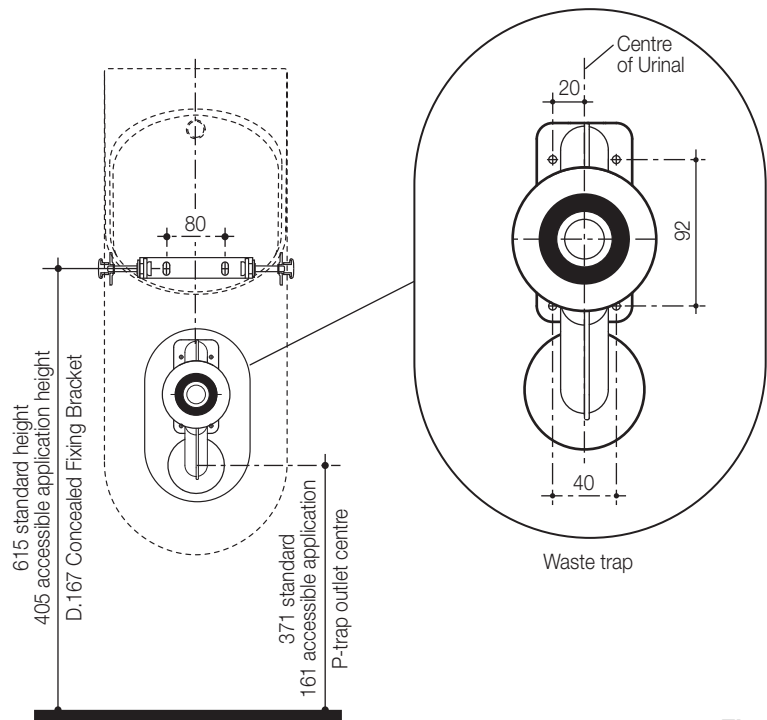

Fig. 1
For timber stud walls the noggings and studs must be positioned at a height to allow for the location of the fasteners. The centre position is detailed in Fig. 1.
- 1- Ensure the roughing in details have been confirmed on the wall as detailed in Fig. 1 & 2. The 3/4" pipe must be cut square to ensure proper sealing with the kee seal.
- 6- Fix the Urinal Fixing Bracket into position as detailed Fig. 1.